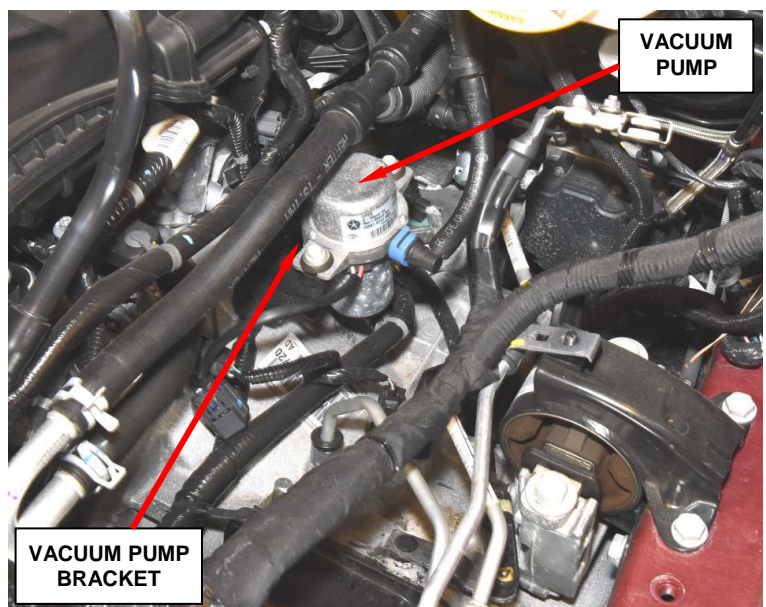

Figure 2 – Vacuum Pump and Bracket
6. Remove and save the brake booster vacuum pump (Figure 2).
7. Remove and save brake booster vacuum pump mounting bracket (Figure 2).